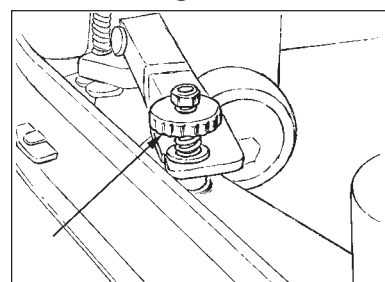

Figure 16
3. The squeegee assembly has a break away feature that is also used for mounting the squeegee on the right side. Loosen the spring loaded tension knob on the squeegee. Slide the stud with the washer and spring into the slotted hole in the support frame on the machine. The washer should be located above the support. Tighten the knob to apply the spring tension (see figure 16).